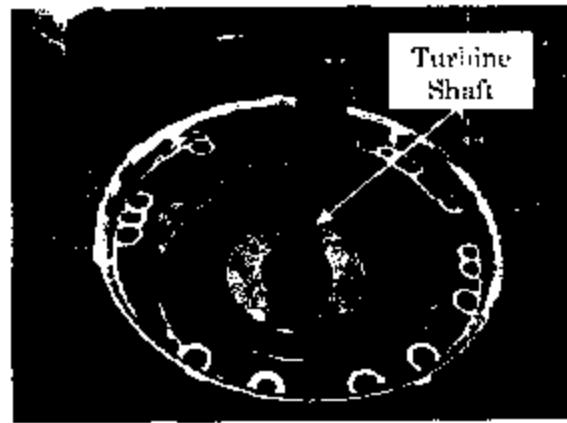

Figure 7
18. Grab the turbine shaft and lift out the 4th clutch, 4th retainer, & overrun assembly (see figure 7).